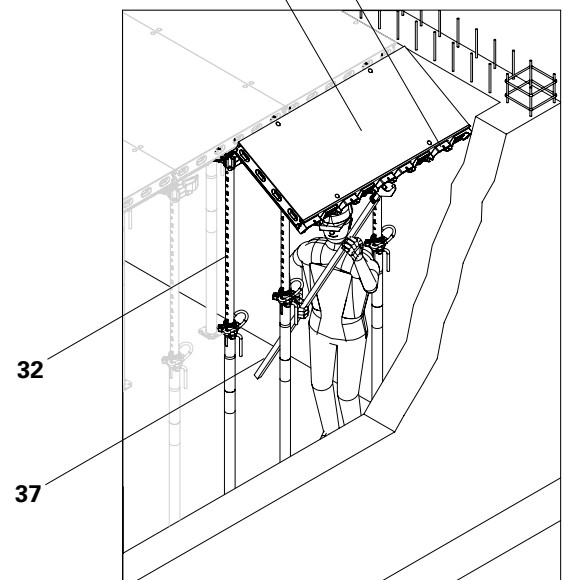

Fig. D3.02
2. Hook the DP panel prepared with the filler support crosswise into the DFH propheads. The filler support must be pointing towards the wall. Push it upwards with the shuttering aid, and then position it on the shuttering aid (37). (Fig. D3.02)